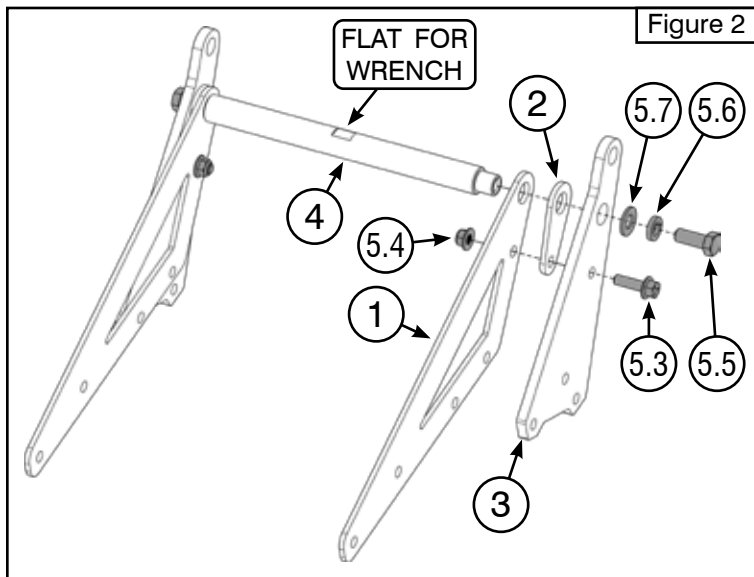
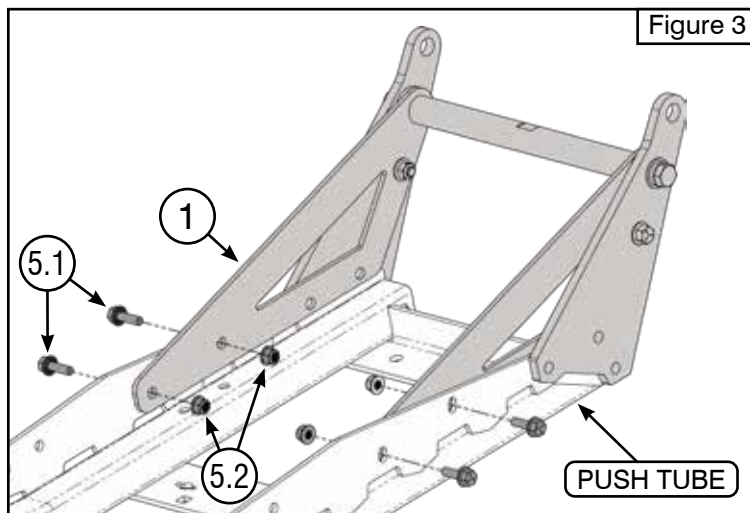

Figure 2
Figure 3
2. Set leveling tab (1) in place and secure using bolts (2.1) and nuts (2.2) as shown in **Figures 2 & 3**.
3. For the 1" leveling height configuration, see **Figure 2**. For the 2" leveling height configuration, see **Figure 3**.
2. Loosely assemble gusset (1), spacer (2), and ear (3) onto rod (4) using bolts (5.5), lock washers (5.6), and flat washers (5.7). Refer to **Figure 2** for orientation.
3. Loosely install bolts (5.3) and lock nuts (5.4) through the ear (3), spacer (2), and gusset (1). See **Figure 2**.
4. Place the subassembly onto the push tube. Ensure gusset (1) is placed inside the rib on the push tube. Loosely install front bolts (5.1) and lock nuts (5.2) as shown in **Figure 3**.
Note: When tightening bolts (5.5), use a 7/8" wrench or an adjustable wrench on the flat spot of rod (4) to prevent it from rotating. See **Figures 2 and 4**.